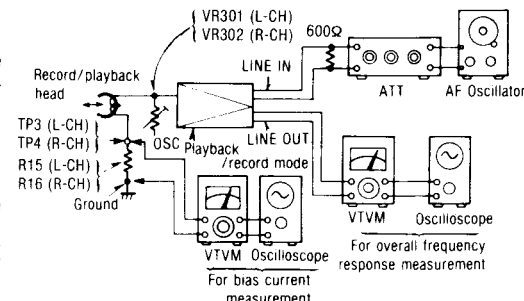

Fig. 13
1. Make connections as shown in fig. 13.